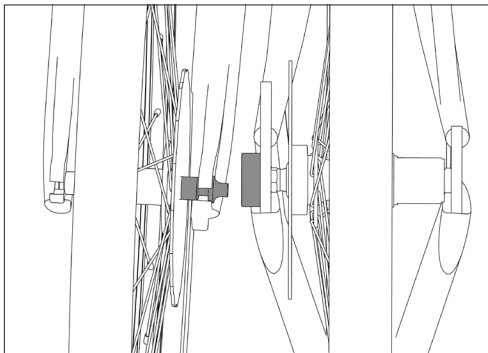

Fig. 33: Front wheel quick release end nut entering rear axle opening.
6. Where the two halves of the bike come together, the front wheel quick release end nut should nestle inside an opening on the rear axle. Ensure the end nut is fully seated inside the opening. (Fig. 33).